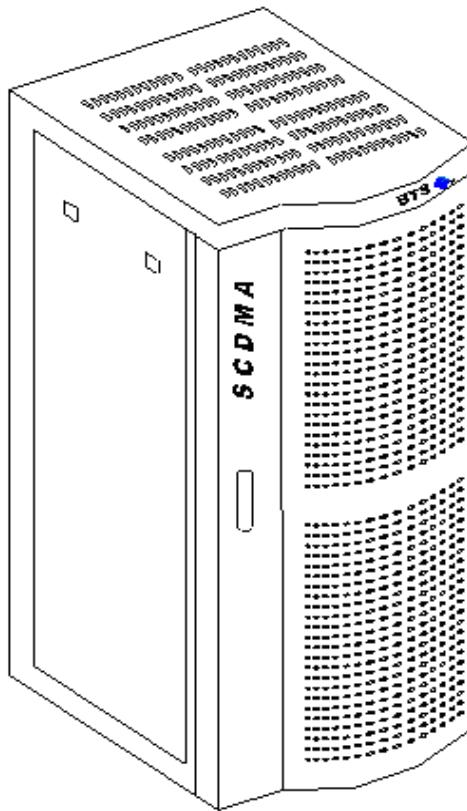

Figure 2-1 Cabinet structure
(2) Figure 2-1 shows the appearance and accessory of the cabinet: